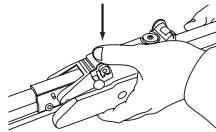

Fig. 11
- Bring the breech block to its completely closed place. (Fig. 11)